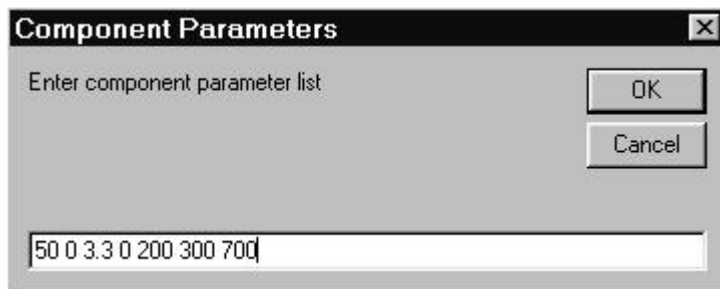

Figure A8.15 – Parameter list for the pulsed resistive voltage source component.
- The parameter list is shown in Figure A8.15. This implies the following, source resistance = 50Ohm, low voltage = 0, high voltage = 3.3V, delay = 0ps, rise/fall time = 200ps, voltage high period=300ps, voltage low period = 700ps. The period of the pulse is given by: